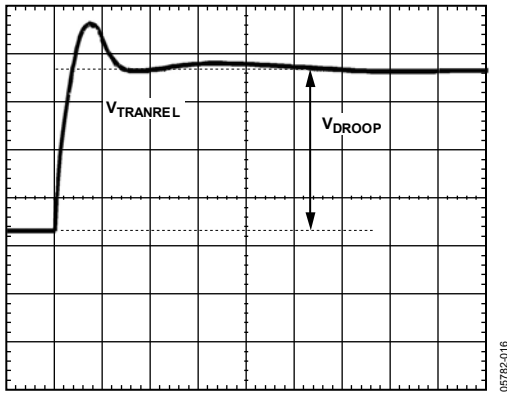

Figure 30. Transient Setting Waveform, Load Release
21. For load release (see Figure 30), if  $V_{TRANREL}$  is larger than the IMVP-6 specification, there is not enough output capacitance. Either more capacitance is needed or the inductor values needed to be smaller. If the inductors are changed, then start the design over using Equation 1 to Equation 39 and this tuning guide.